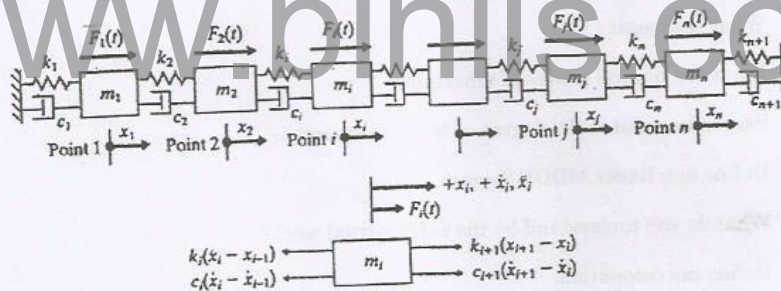

Fig. Q.13(b)
- (b) Derive the equations of motion of the spring mass damper system shown in the figure Q.13(b).